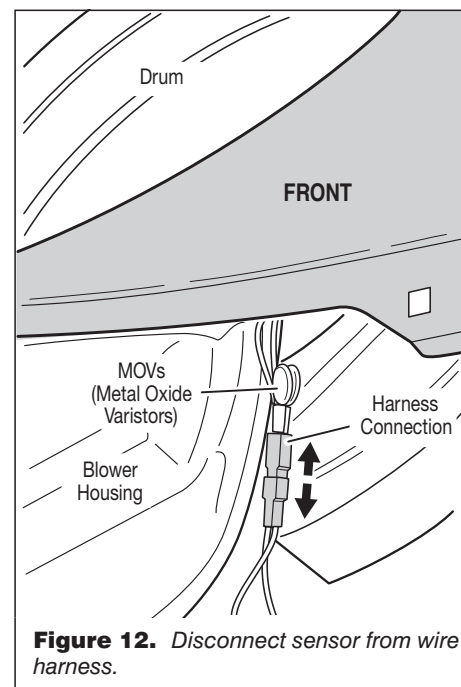

Figure 12. Disconnect sensor from wire harness.
4. Access the moisture sensor wires by removing the toe panel. See Removing the Toe Panel, page 11. Disconnect the sensor wires from the harness. See figure 12.
6. Access the moisture sensor by removing the toe panel. See Removing the Toe Panel, page 11. Disconnect the sensor from the wire harness. See figure 12.